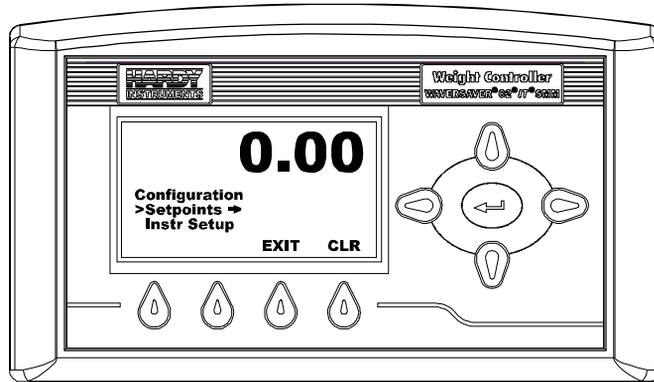

FIG. 39 CONFIGURATION DISPLAY
- Step 3. Press the Enter button to go to the Configuration menus. (See Fig. 39)